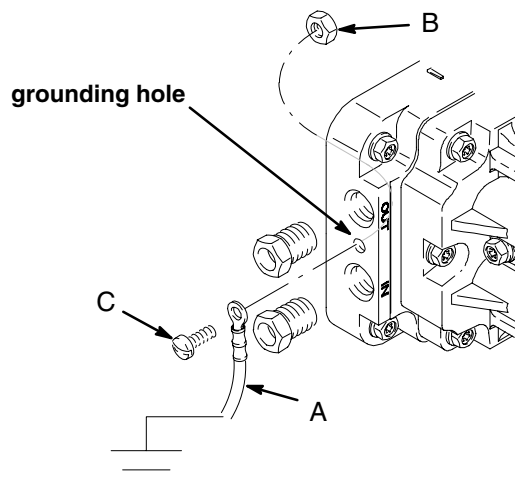

Fig. 1
The *polypropylene and Kynar® pumps* are **not** conductive. When you pump conductive flammable fluids, **always** ground the entire fluid system by making sure the fluid has an electrical path to a true earth ground. See Fig. 1. **Never** use a polypropylene or Kynar® pump with non-conductive flammable fluids as specified by your local fire protection code. Consult your fluid supplier to determine the conductivity or resistivity of your fluid.
Pump: Connect a ground wire (A) and clamp, Part No. 222011. See Fig. 1. The pump grounding locations are on the manifold between the inlet and outlet ports. Use the nut (B) and bolt (C) that are provided with the pump, and install as follows: